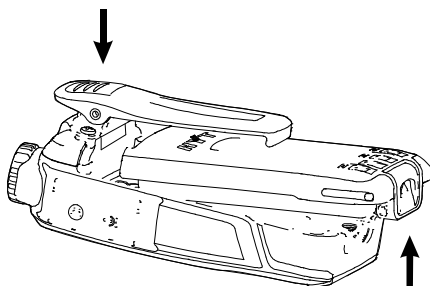

Figure 2
- ② When the battery tilts with its bottom up, release the battery latch and lift the battery from the radio's body, as shown in Figure 2.